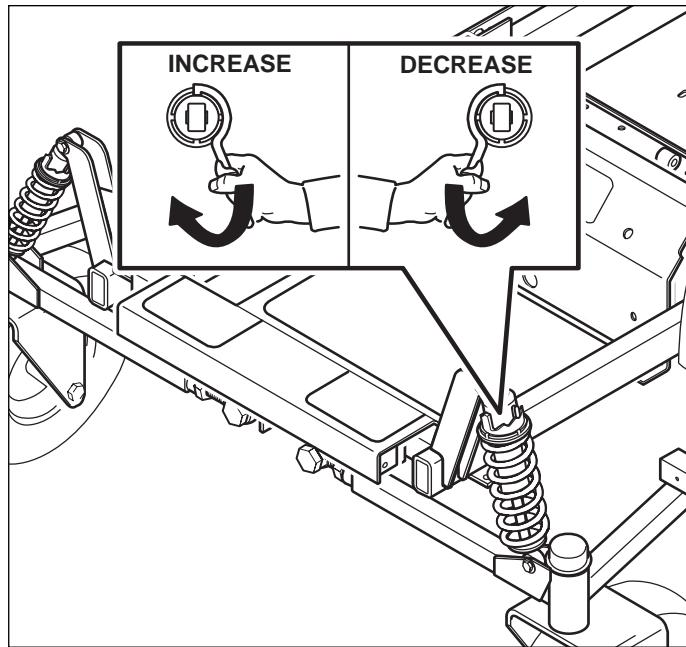

Figure 23. Front Suspension Adjustment
2. See Figure 23. Using the supplied spanner wrench (p/n 22853), insert the tip of the wrench into the notch in the pre-load adjuster. While holding the wrench in place with one hand, turn CLOCKWISE to increase the pre-load, turn COUNTER-CLOCKWISE to decrease the pre-load. Make sure both shocks are set to the same amount of pre-load.